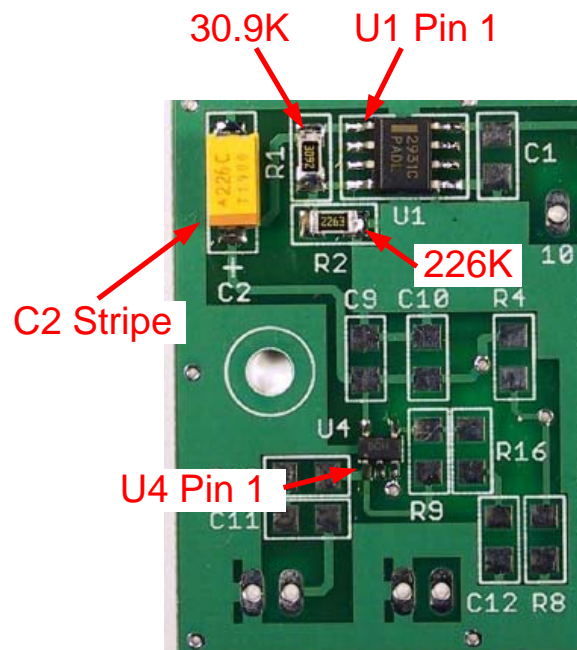

Figure 3. C2, R1, R2, U1, U4 Locations
- ❑ Remove U1, LM2931, from the active component compartment. The IC has a broad band at the pin 1 end. Refer to **Figure 3** for placement. Position it squarely over the U1 pads and tack down pin 1. Inspect the positioning to make sure all of the IC leads rest squarely over the remaining pads. Once you are satisfied with the placement, solder pin 5 to lock the position, then solder the remaining pins. Inspect your work carefully to make sure all of the joints resemble the photo.
- ❑ Remove one of the AD8001 chips from the active component compartment. Save the other for Side B. This IC is marked **HOB**. Position it over the pads of U4 as shown in **Figure 3** and tack down pin 1. Make sure all of the pins are aligned with the pads and solder pin 4, diagonally opposite pin 1. Solder the remaining pins.
- Remove C2, 22uF, from the top compartment. It is marked either 226C or 22u. Install is as shown in **Figure 3** with the stripe facing the “+” sign silkscreened on the board.